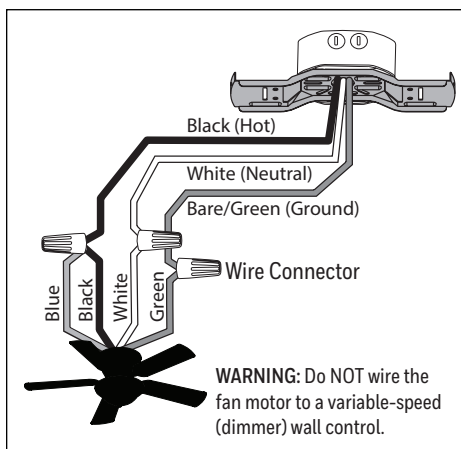

Figure 4.1
- Use wire connectors to connect the fan wires to the power supply wires according to the wiring diagram and the following instructions (Figure 4.1):